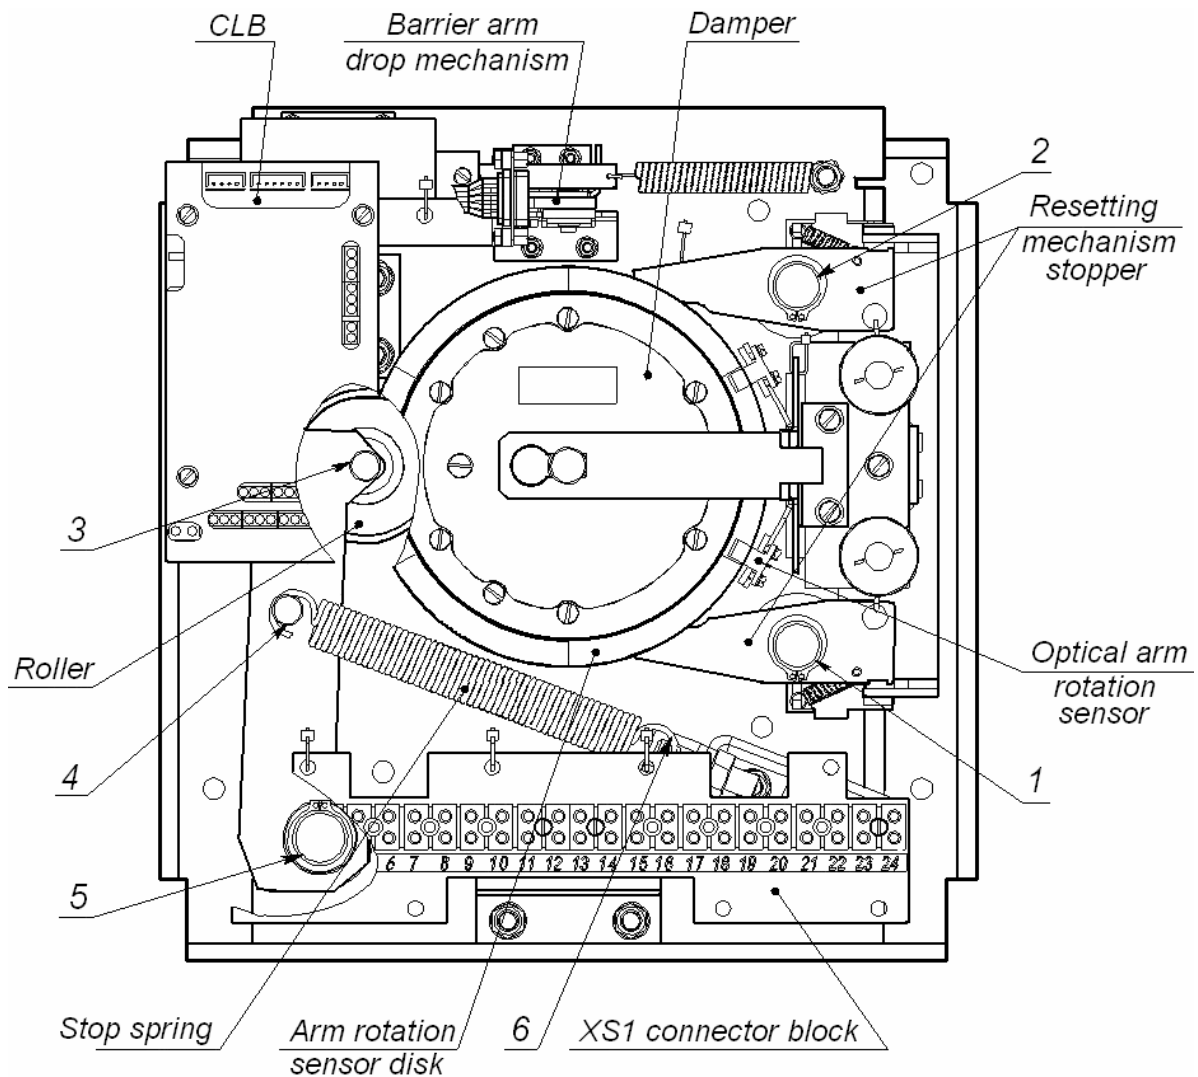

Figure 14. Location of the interior components of the turnstile mechanism
2. Remove the cover (2) with LED indication block from the turnstile housing. The order is given in Chapter 6.
3. Check visually the resetting device (pusher, springs and roller), the arm rotation sensors and the damper (Fig. 14).
7. Connect the S1 cable connector of the indication board to the CLB and mount the cover with LED display (2) back into its place in the reverse order to the dismantling. When the cover mounting is carried out correctly it does not need much effort.
8. Check the reliability of the barrier arm (3) fastening. Check the reliability of hub fastening bolts (6).